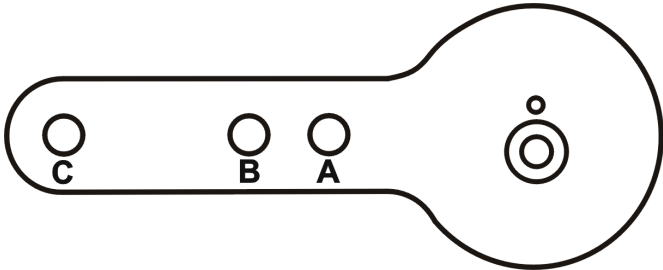

Figure 9 - Lever for Masoneilan Model 87/88 Multi-spring Actuator
3. Select mounting hole A, B, C or D for the stroke of the valve. For example, hole B is shown in Figure 9 on page 28 for a size 10 actuator with 1.0" stroke. Unless otherwise specified, the SVI II ESD mounting assumes that the actuator is in the normal upright position. The mounting hole in the slotted opening of the mounting bracket must be left when facing the actuator, with the actuator in the upright position.
5. Attach the right hand threaded rod end to the SVI II ESD lever using a 1/4 - 20 x 1" cap screw and nut as shown. The lever hole position to be used depends upon the specific valve stroke. Refer to Figure 9 on page 28 and the Reciprocating Valve Linkage Selection, Table 3 on page 23.